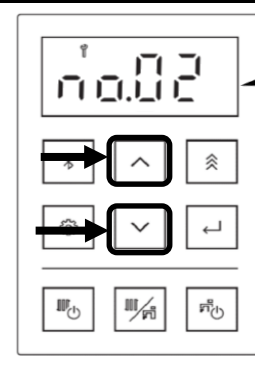

Fig 2. "Up" and "Down" Buttons
- Use the **▲** (Up) and **▼** (Down) buttons (Fig 2) to scroll to the desired information described in Table 1(A), Performance Data.